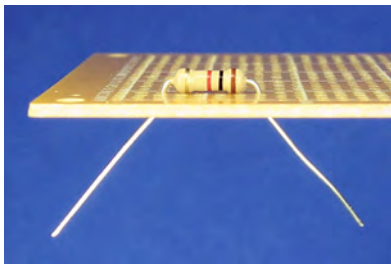

Figure 23-9. Side view of a breadboard with a component's leads bent slightly to hold it in place during soldering
8. Carefully bend the component leads toward the back of the board so that the components won't fall out during soldering (see Figure 23-9). Bend the leads only as much as necessary to keep the components in place during soldering; don't bend the leads completely flat against the board. Solder tends to wick under the flattened leads and contact other pads or components. Also, it's more difficult to trim off excess length of flattened leads.